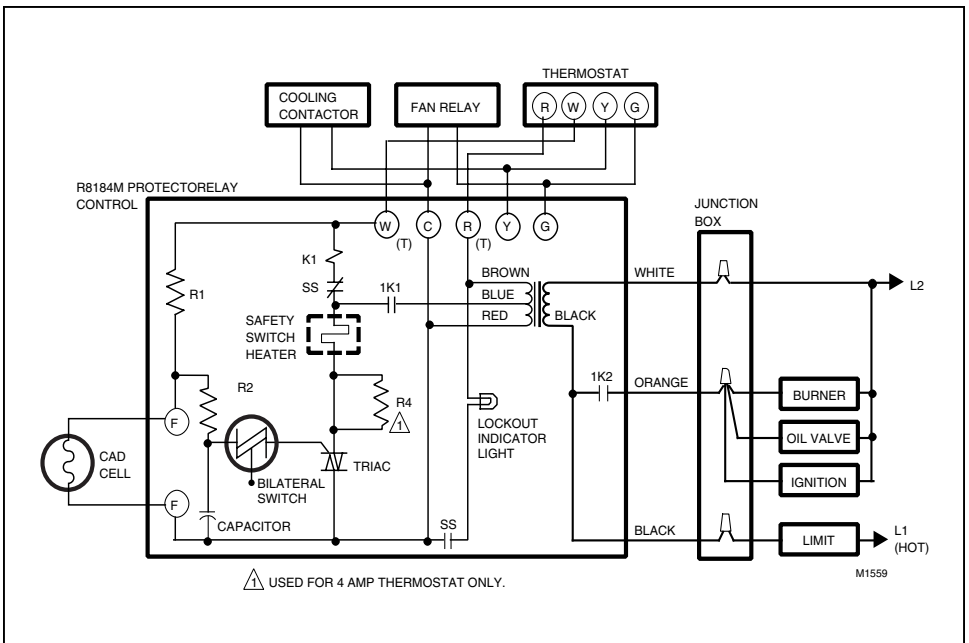

Fig. 1—Wiring diagram of R8184M.
2. Make line voltage connections as shown in Fig. 1.
5. Connect all remaining low voltage wiring connections as shown in Fig. 1.